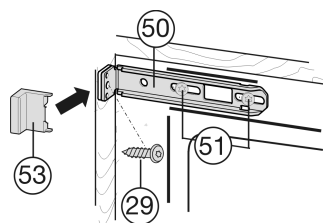

Fig. 23
- ▶ Slightly loosen the screws Fig. 23 (51).
- ▶ Secure the top mounting bracket Fig. 23 (50) to the unit wall with a $\varnothing 4 \times 19$ chip-board screw Fig. 23 (29).
- ▶ Break off the protruding end of the cover Fig. 23 (53).
- ▶ Tighten the screws Fig. 23 (51).
- ▶ Place the cover Fig. 23 (53) in position.